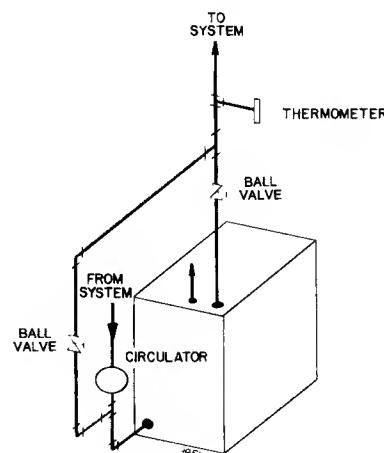

FIGURE 2
- a) By-pass piping should be used for low water temperature applications (i.e. radiant panel systems, converted gravity systems, etc). By-pass, supply and return piping should all be the same size. See Figure 2. Adjust valves to maintain boiler temperatures greater than 160°F.